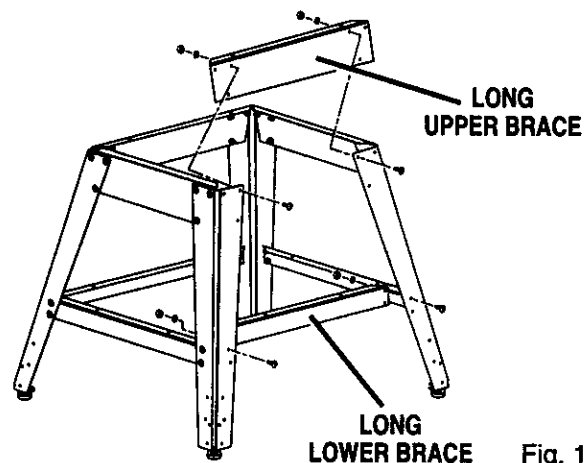

Fig. 10B
- Connect the leg sets with a long upper brace. Add the hardware and finger tighten. Repeat for the other side brace, then install the long lower braces. See Figure 10B.